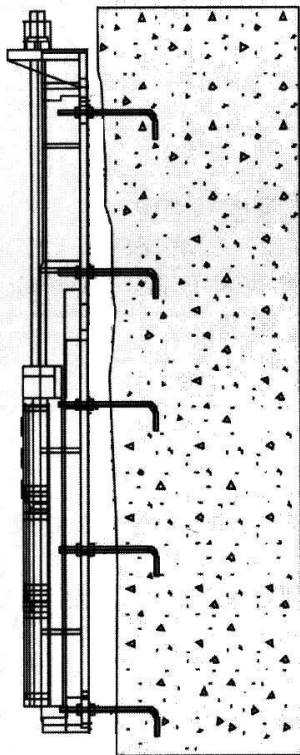

Figure 1, Penstock alignment using 2 nuts and J bolts
- After concrete has been poured and form has been stripped, place one nut on the anchor bolt. Place the **completely assembly** penstock into position carefully. Place the second nut on the anchor bolt and bring bolt nuts into finger-tight contact with the penstock's frame, aligning it as necessary (Figure 1).
- Screw on the embedded holding screw to the 2 side if channel penstock frame with the screw thread provided as Figure 1. Make sure the sufficient number of embedded screw been used for the channel penstock installation.